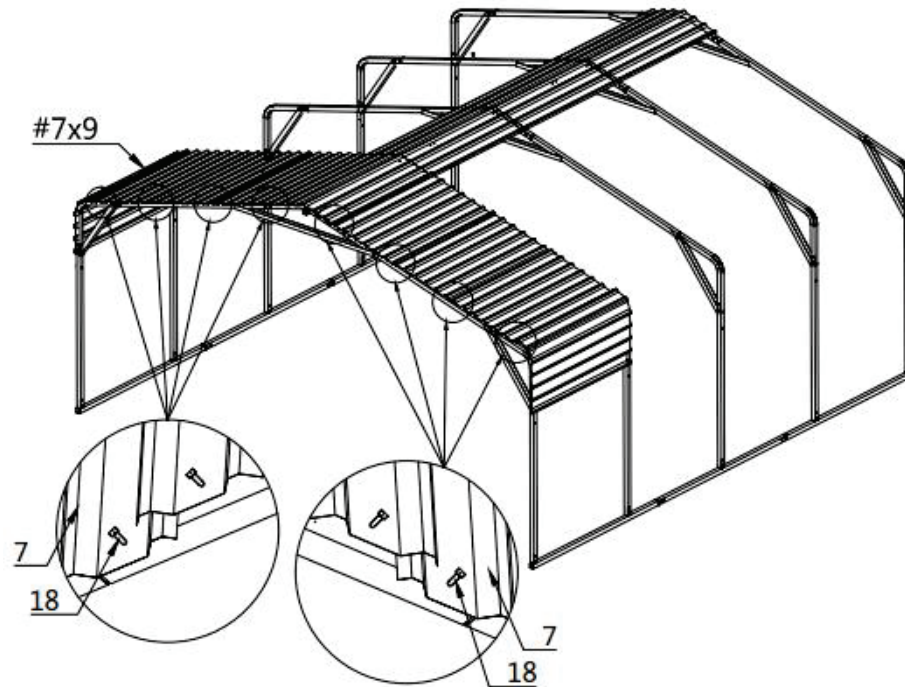

Figure 8
- Install the first color steel tile. Take the first colored steel tile at the top as the benchmark, ensure that both ends of each colored steel tile are aligned, and lock it on the truss with (#18) self tapping screw. (refer to Figure 8)